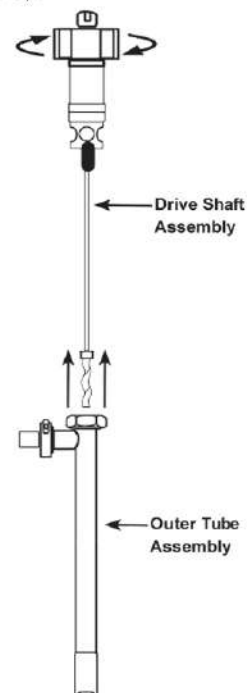

Figure 6
8. Once the Hex Nut is loosened, remove the outer tube from the drive shaft assembly (see Figure 6).